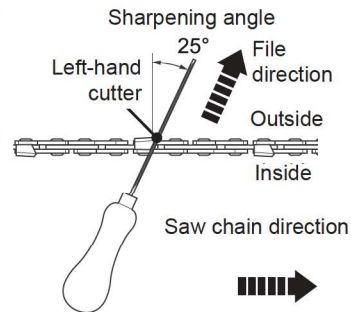

Fig. 51
- > File at an angle perpendicular to the bar, and at an angle of 25° to the direction of travel (Fig. 51).